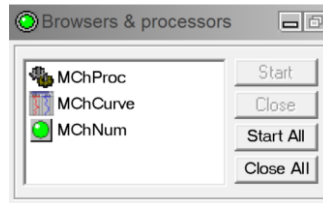

Figure 4-17 Browsers & processors panel
- Close out of the **Calibration Settings** window. On the **Browsers & processors** panel, click **Close All** and then click **Start All**. This should close all windows on the screen and then open them again, to reinitialize the other Browsers/Processors (**Figure 4-17**).